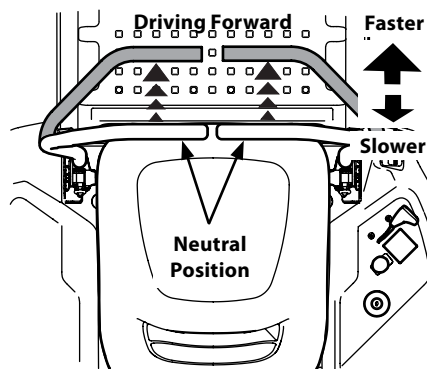

Figure 3-4
1. Slowly and evenly move both drive control levers forward. The tractor will start to move forward. See Figure 3-4.